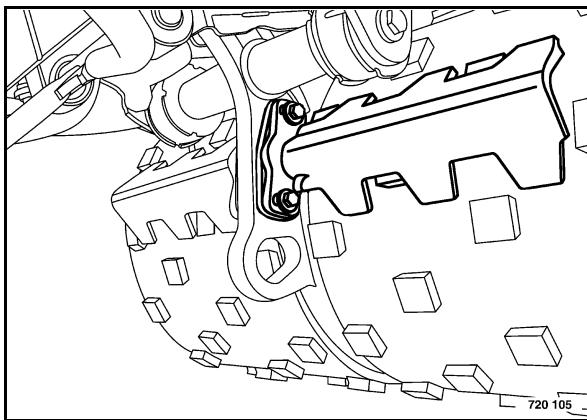

Fig. 140
- Loosen the fastening screws (Fig. 140) on both sides of the machine.